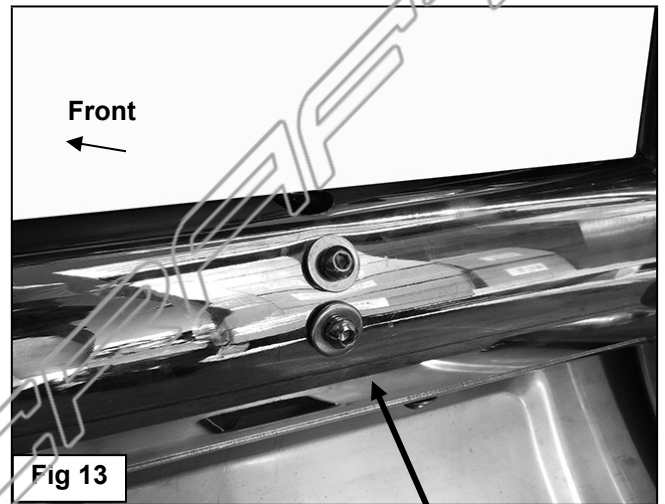

Fig 13
- a) Insert the included (4) 6mm x 20mm Button Head Bolts, (4) 6mm Lock Washers and (4) 6mm Flat Washers into the threaded inserts in the back of the crossbar to plug the holes, **(Figure 13)**. Tighten hardware. Installation is complete.
- a) Select (1) Light Mount, **(Figure 14)**. Use the hardware included with the light to attach the light to the top of the Light Mount. If light has a separate tilt feature, fully tighten base mounting hardware, **(See example Figure 13)**. If light adjusts with the base mounting hardware, skip to **Step 9b**.